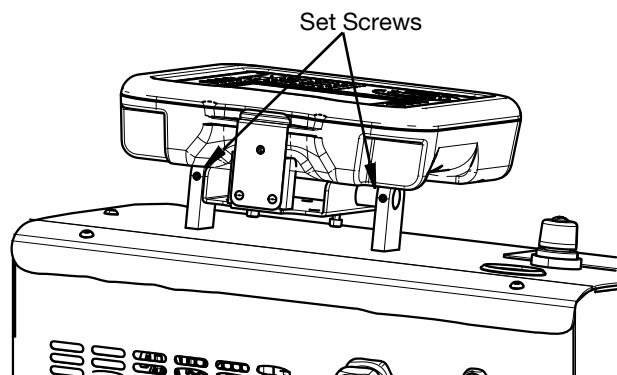

FIG. 23
1. Loosen both set screws on the ADM mounting brackets using a 2.5 mm allen wrench. See FIG. 23.